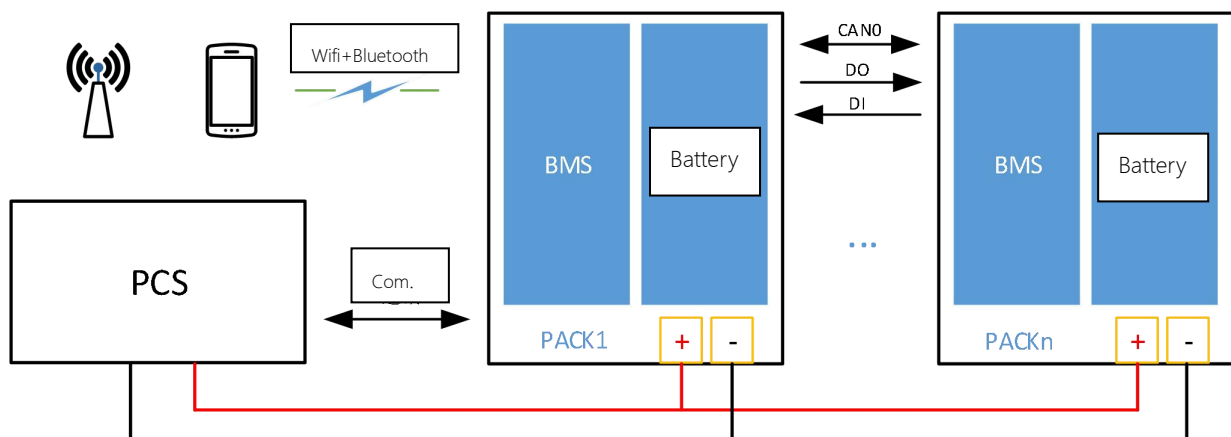

Figure 5- Energy storage system with multiple packs
- 1) Only the online working mode of parallel power lines is supported (Fig. 5), and the power output of pack can not be used in series;